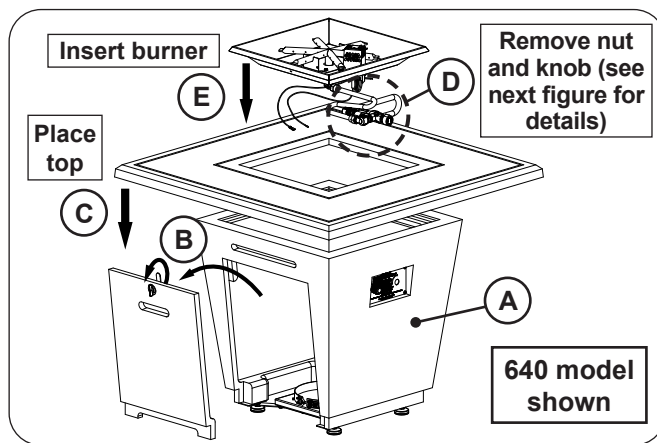
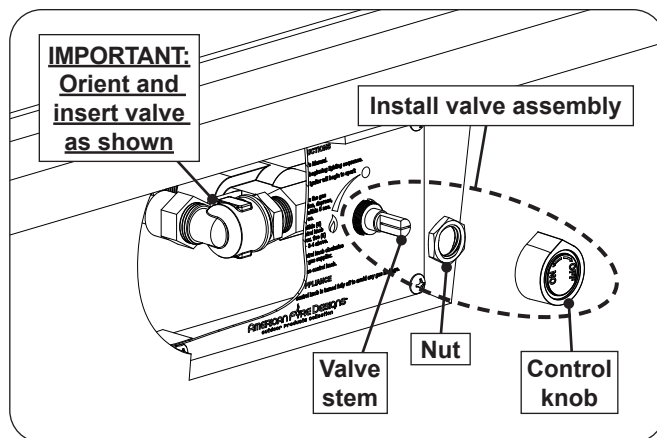

Fig. 35-1 Place base, remove door, place top and burner
Fig. 35-2 Install valve assembly
1. **Carefully** remove the valve and burner assembly from the base, then **carefully** place the base in an appropriate location (see Fig. 35-1, A, and refer back to the LOCATION section if needed).
3. **Carefully** place the top on the unit (see Fig. 35-1, C).
4. Locate the valve and burner assembly. Remove the control knob. Use a 20mm socket to remove the nut attached to the valve stem. See Fig. 35-1, D, and reference Fig. 35-2 for details.
Then drop the valve and burner assembly into the opening in the center of the firetable top, with the two burner pan holes facing toward the door (see Fig. 35-1, E).
5. Insert the valve assembly through the plate (in the base). Replace the nut onto the valve stem, and tighten. Reinstall the control knob. See Fig. 35-2.
**Important:** Handle with care to prevent damage to the thermocouple, electrical, and gas connections (as applicable). Ensure the valve is oriented and inserted in the manner shown. See Fig. 35-2.